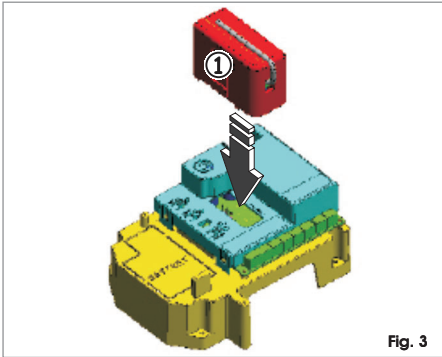

Fig. 3
The control board has an integrated 2-channel decoding system (DS, SLH, RC, LC) named OMNIDEC. This system makes it possible to memory-store both total opening (OPEN A) and partial opening (OPEN B) of the automated system - this is made possible by an additional receiver module (fig.3 ref. ①) and radio controls on the same frequency.